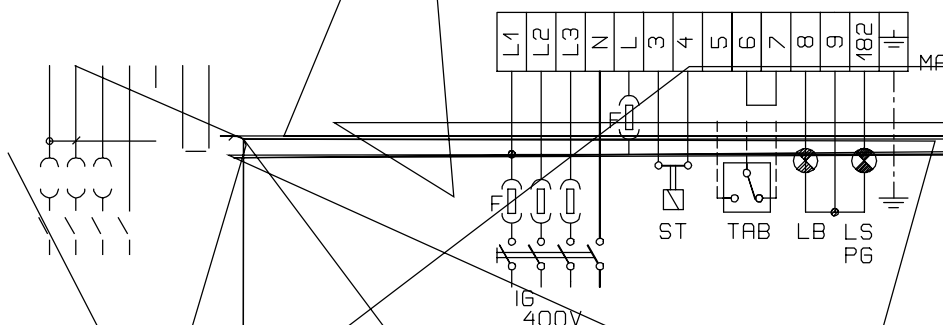

Fig. 5
- Effect the electrical connections to the supply terminal board as per the scheme in fig. 5, check the direction of rotation of the fan motor (see note at end of page) and refit the panel cover.